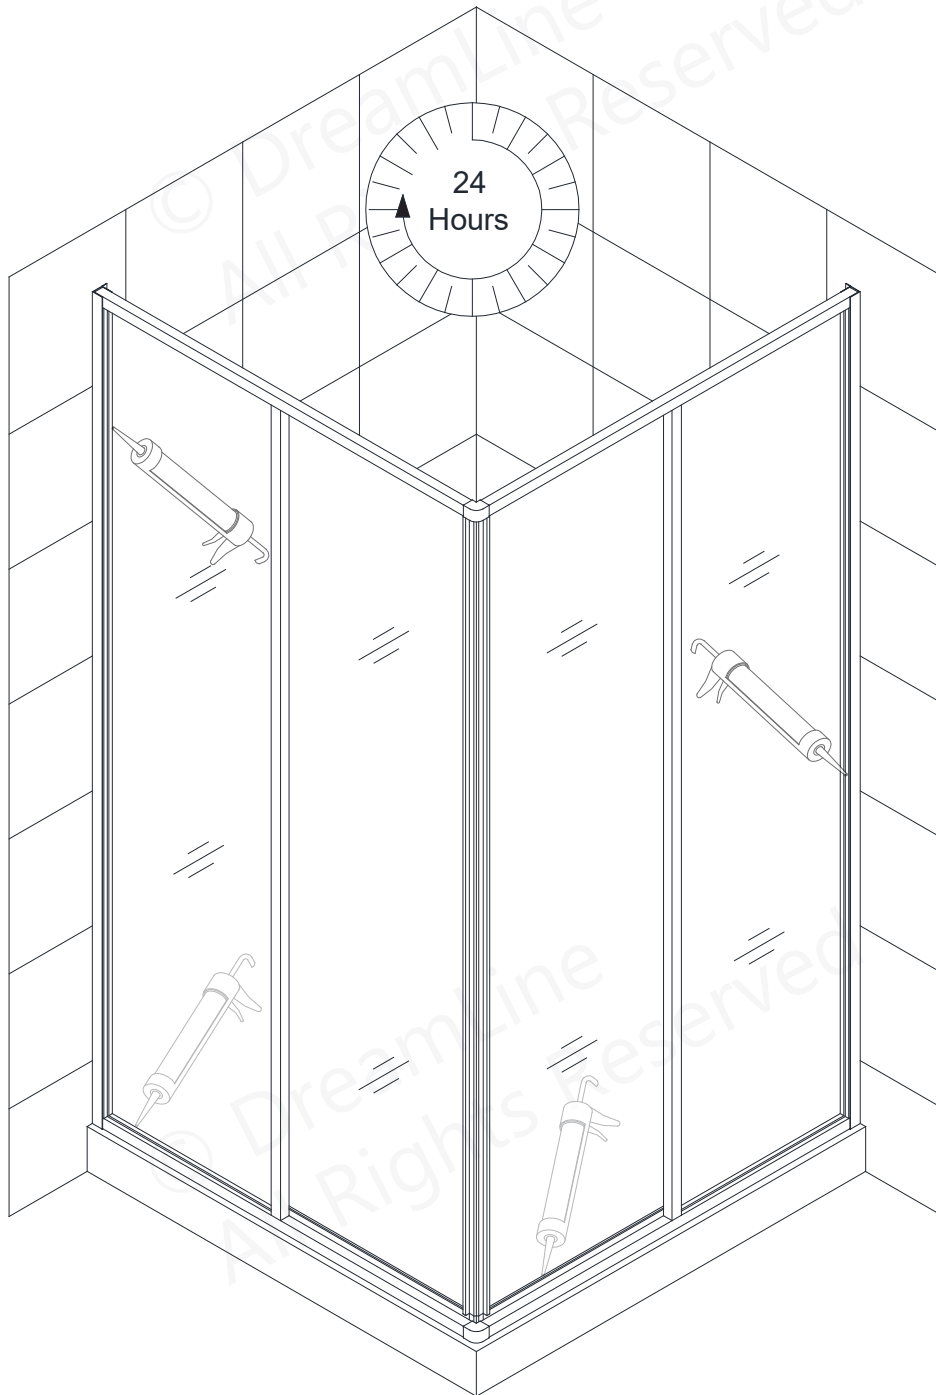

Fig 7
7. Use a good quality mildew-resistant silicone to seal the connections between the Wall Profiles and the walls, and where the Bottom Guide Rail meets the threshold. **(Fig 7)**